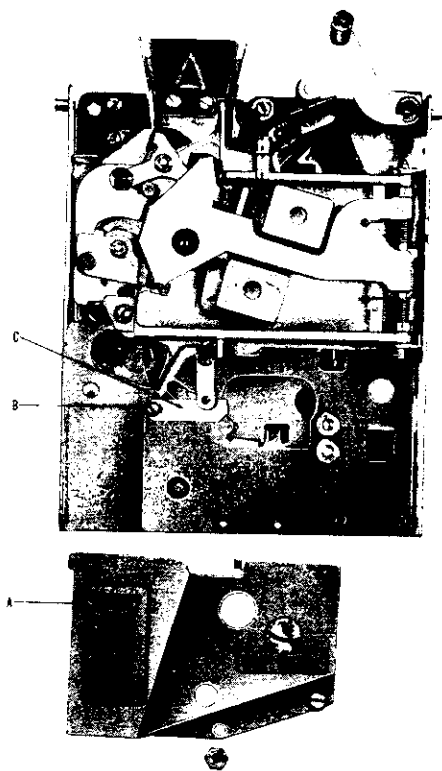

FIG. 3 - SLUG REJECTOR
- D. To reject 5¢ coins, remove cover plate on slug rejector (A-Fig. 3) after first removing slug rejector from Wall Box.
- E. Loosen screw (B-Fig. 3) and insert 5¢ coin stop (C-Fig. 3) which is included in the Wall Box under head of screw (B-Fig. 3) and tighten screw. Replace cover plate (A-Fig. 3) and insert slug rejector unto Wall Box.